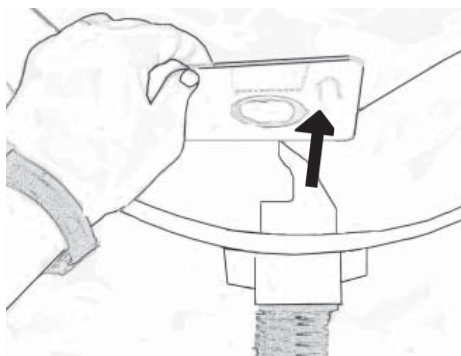

Fig. 23
5. Remove the dust bag by taking hold of the cardboard stiffener and carefully pulling out the card and bag from the container, Fig. 23. Fold down the perforated part of the cardboard towards the opening of the bag in order to prevent the bag contents to leak out.